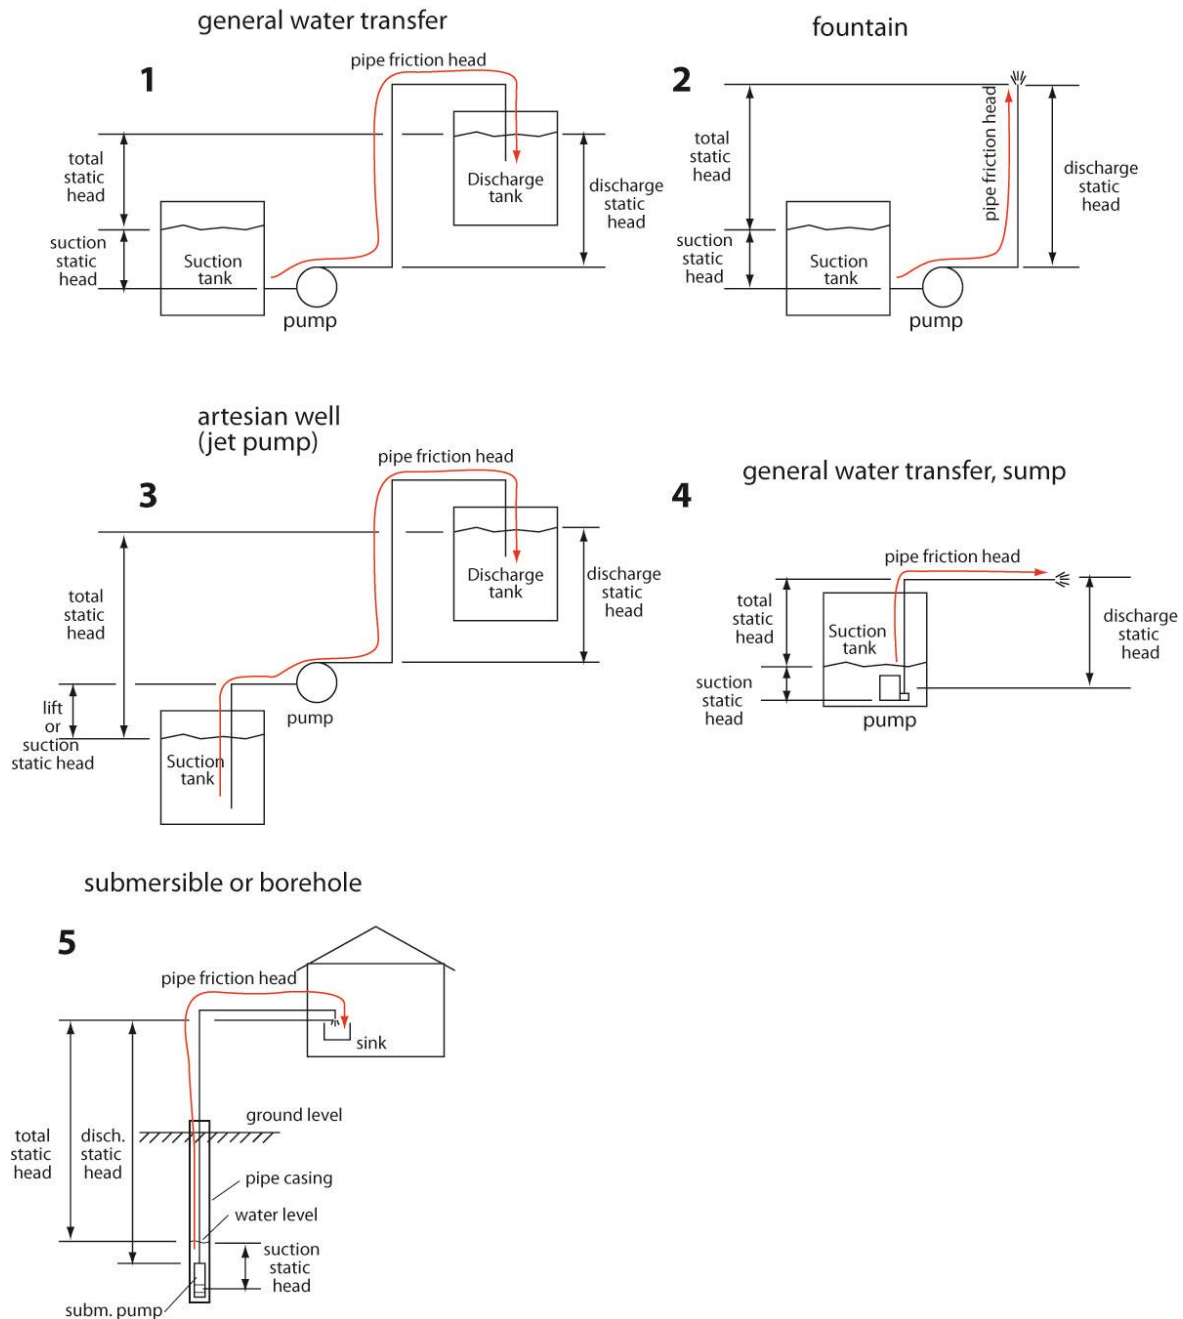
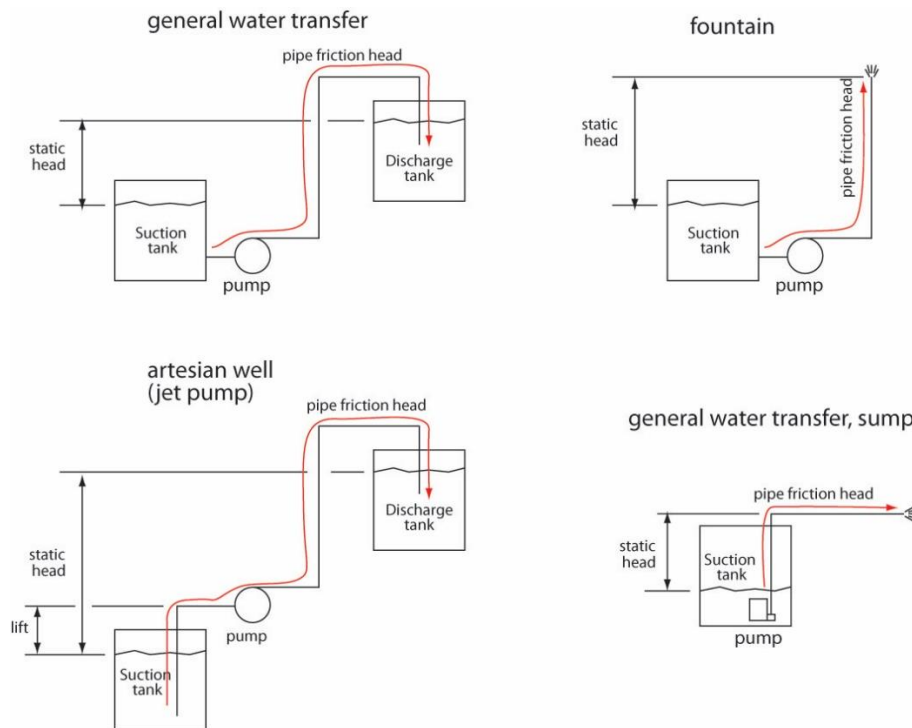

Figure 3 Typical pump systems
Figure T5 Static head
As an example, let's take the pump system shown in Figure 3 item 1. The flow *rate* is dictated by the height (i.e. head) of the highest fluid particle and the size of the tube that will carry the water. The height we can measure and it is called static head. As the water moves over the inner surface of the tube it will impede the flow by creating friction. The smaller it is for a given flow rate the higher the friction. How is this friction assessed and how will we relate it to the
Here are some typical pump systems that shows how the total static head will vary depending of the configuration of the system on the discharge and suction side of the pump (see Figure 3).
These figures show that the highest point that the liquid goes does not determine the static head (Figure 3 examples 1 and 3). Because we have to look at the whole system full of liquid from one end to the other it would be better to say that the discharge static head is determined by the height of the remotest part of the liquid with respect of the pump discharge; and the suction side is treated in a similar fashion.
Static head: can be any difference in level depending on the context; to be more precise use total static head, suction static head or discharge static head (see Figure T5 and Figure 3).
Total static head: is used to describe the elevation difference between a suction tank level and the discharge tank level or in the case of an open pipe the height of the open pipe end (see Figure 3).